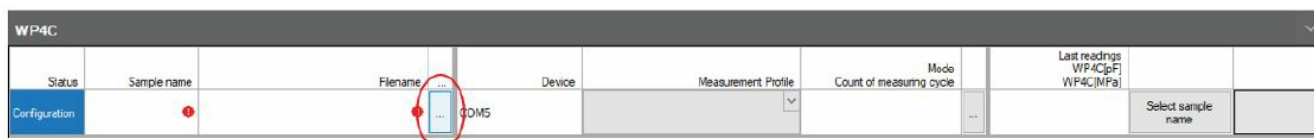

Figure 4 Open *.bhd File
1. Select the button with the ellipsis as depicted in Figure 4.